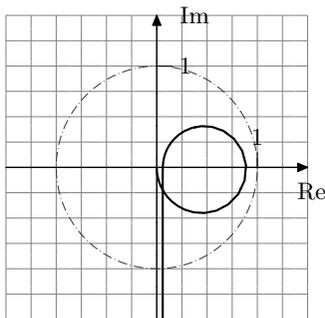

Figure 4.3a
- 4.3 a) In Figure 4.3a the Nyquist curve for a system is shown. Draw the Bode plot for the same system. The scale on the ω -axis is not important, as long as the amplitude and phase curve are in agreement.